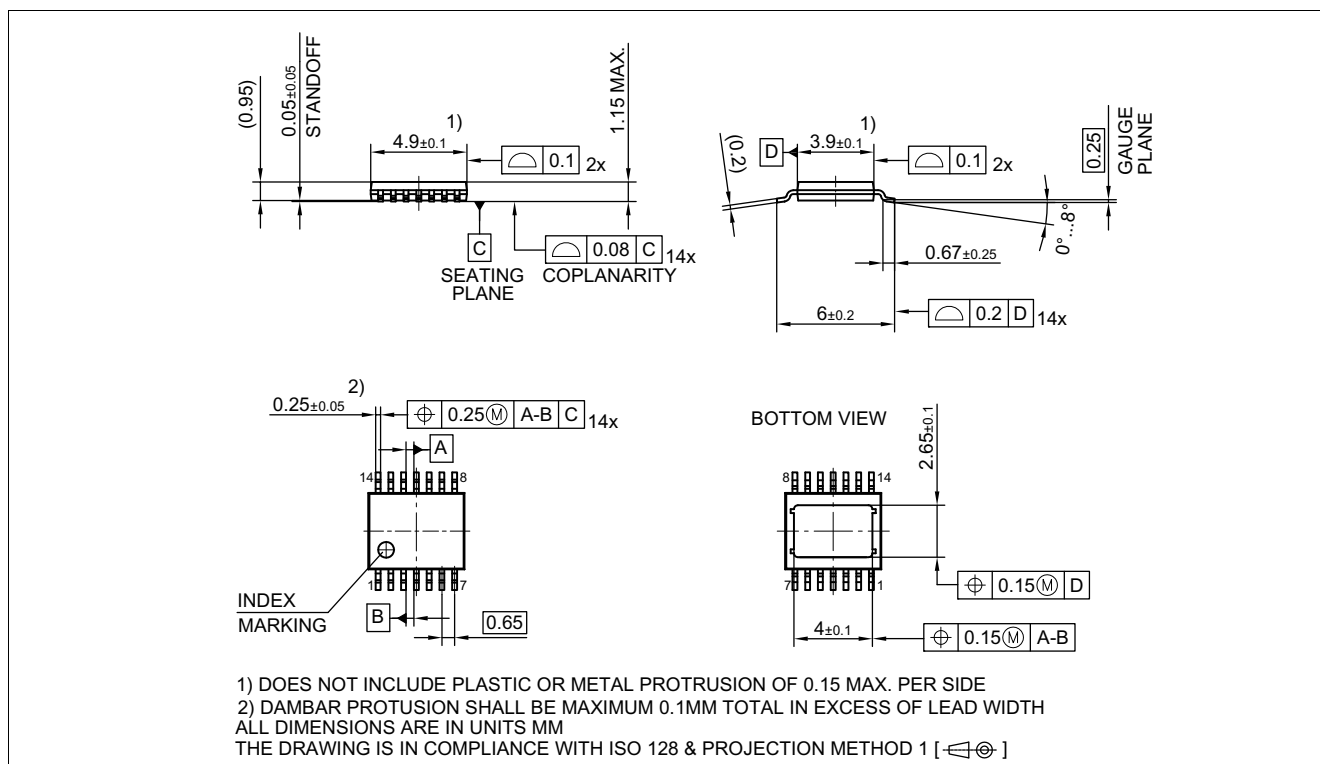
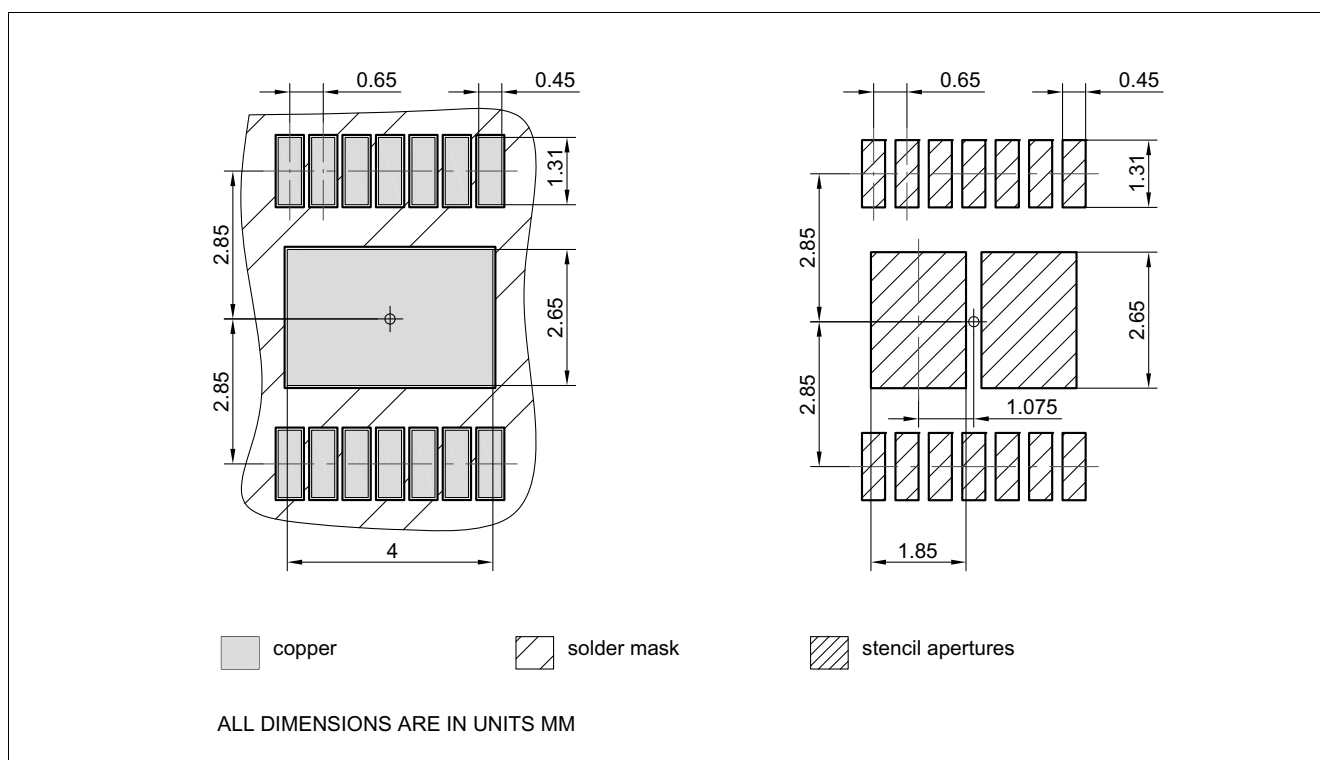

Figure 43 PG-TSDSO-14 (Thin (Slim) Dual Small Outline 14 pins) Package Outline
Figure 44 PG-TSDSO-14 (Thin (Slim) Dual Small Outline 14 pins) Package pads and stencil
1.02 , 2019-06-26	Chapter 9.2 updated ($2\text{ V} \rightarrow V_{\text{DS(OLOFF)}}$) Chapter 1 updated ((inserted headline "Product Validation"), (Qualified in accordance with AEC Q100 grade 1 → Qualified for automotive applications. Product validation according to AEC-Q100 Grade 1.)) General: updated Product Name (PROFET™+2 → PROFET™+2 12V) Page 1: updated figure product P_8.7.9.5, P_8.7.9.6 updated (Typ.: 4 A → 6 A) Table 24 updated punctuation Chapter 9.3.1 updated (typo) Page 1: updated (Package PG-TSDSO-14-22 → Package PG-TSDSO-14) Figure 29 updated Figure 43 updated (PG-TSDSO-14-22 (Thin (Slim) Dual Small Outline 14 pins) Package Outline → PG-TSDSO-14 (Thin (Slim) Dual Small Outline 14 pins) Package Outline) Figure 44 updated (PG-TSDSO-14-22 (Thin (Slim) Dual Small Outline 14 pins) Package pads and stencil → PG-TSDSO-14 (Thin (Slim) Dual Small Outline 14 pins) Package pads and stencil) Table 1 updated ((Symbol: $I_{\text{VS(SLEEP)}} \rightarrow I_{\text{VS(SLEEP)}_{85}}$), (Parameter: Minimum Overvoltage protection ($T_J = 25\text{ °C}$) → Minimum Overvoltage protection ($T_J \geq 25\text{ °C}$)) P_9.6.0.6 updated (Note or Test Condition: removed unnecessary line-break)